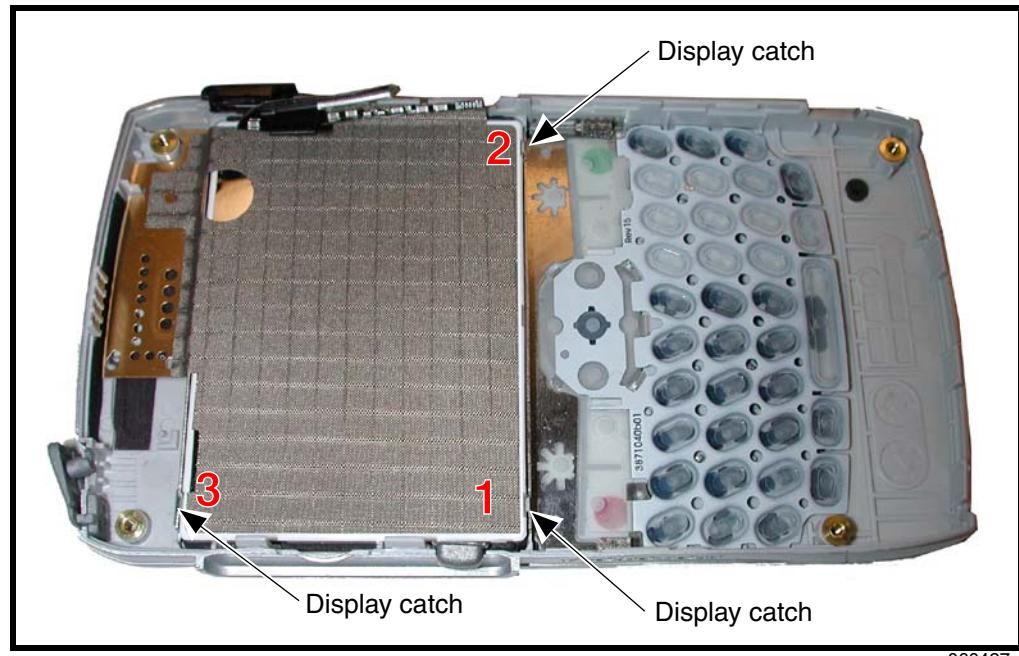

Figure 24. Removing the Display Assembly Catches
2. Use the metal tweezers to release the display module catches in the order shown in Figure 24.